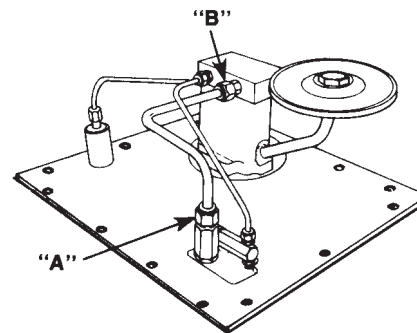

FIGURE 8
7. Reinstall the tube assembly. Check to ensure that fittings "A" and "B" shown in Figure 8 are tightened securely.